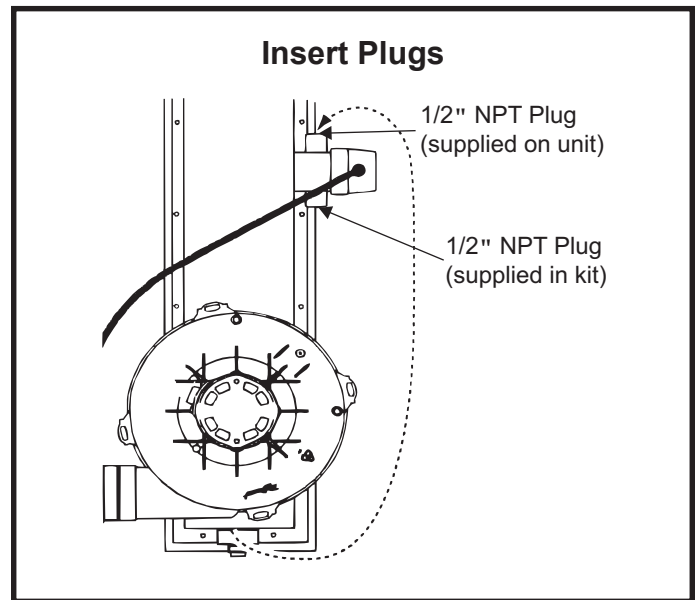

Figure 19
1. Relocate the 1/2" NPT plug installed on the flue pan to one side of the internal trap assembly (as shown in Figure 19).